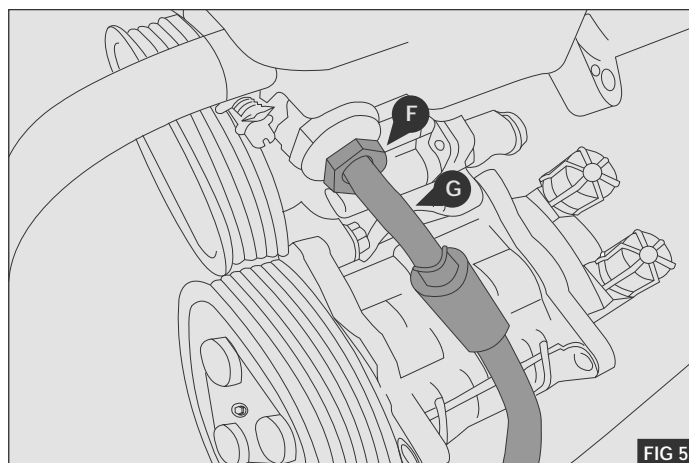

FIG 5
1. Release the power steering pipe nut (F) and turn the pipe (G) to the position show to allow clearance for the compressor. - Fig.5
2. Fully tighten the power steering pipe nut previously released (F) be careful not to over tighten the nut.